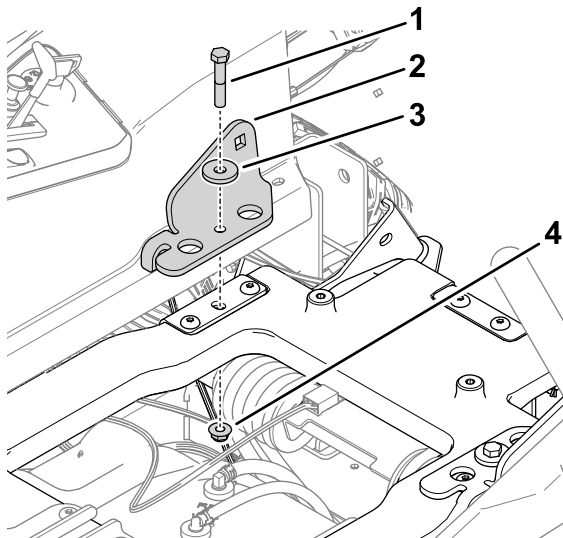

Figure 7
- Install the seat-belt brackets to the seat platform with 2 partial-thread bolts (3/8 x 2 inches), 2 washers, and 2 locknuts (3/8 inch) as shown in Figure 7. Repeat on the other side.